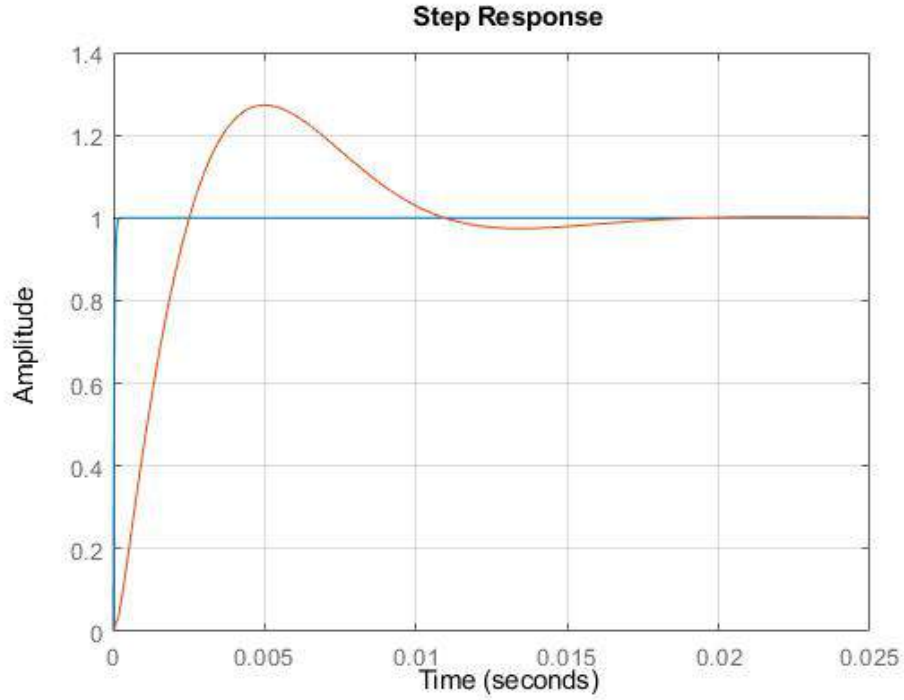

Figure 3: Voltage Controller Step Response
- (a) [10 Points]: Implement a feed-forward in the voltage controller to remove the dependence on the load current ( $i_\ell$ ) and scalar gain ( $d'$ ) by following Figure 3. Since  $v = v_g/d'$ , we can use this substitution,  $d' = v_g/v$  for feed-forward to avoid any potential divide-by-zero error in the simulation. Using Fig.3 (c), we deduce the open loop-gain to be